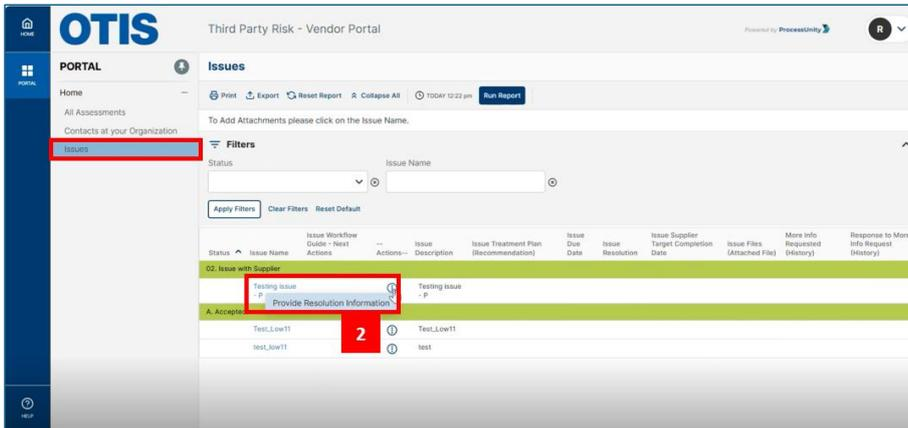

Figure 26
- Navigate to **Issues** tab and under the status **"02. Issue with Supplier"**, click on the three dots to **Provide Resolution Information** (Refer figure 26)